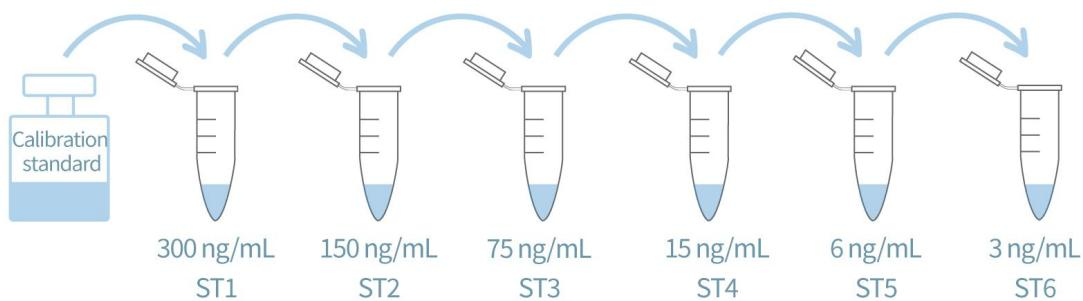

Figure 3. Graphic scheme of CHO-K1 HCP Calibration Standard Solutions
(3) Preparation of Calibration Standard Solutions
- Prepare CHO-K1 HCP Calibration Standard Solutions as shown in Fig 3 and Table 3.